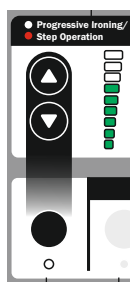

Fig.2
b. If there is no LED light on button 5 and there is a setting (some LED ON) in selector 1 (**Fig.2**), then the machine will start pulse ironing procedure (like hammering operation) during the end of the operating cycle.
Step 2. Press the pedal to hold the upper (Figure 2). Before continuing the procedure be sure that the upper is in the right crimping position.